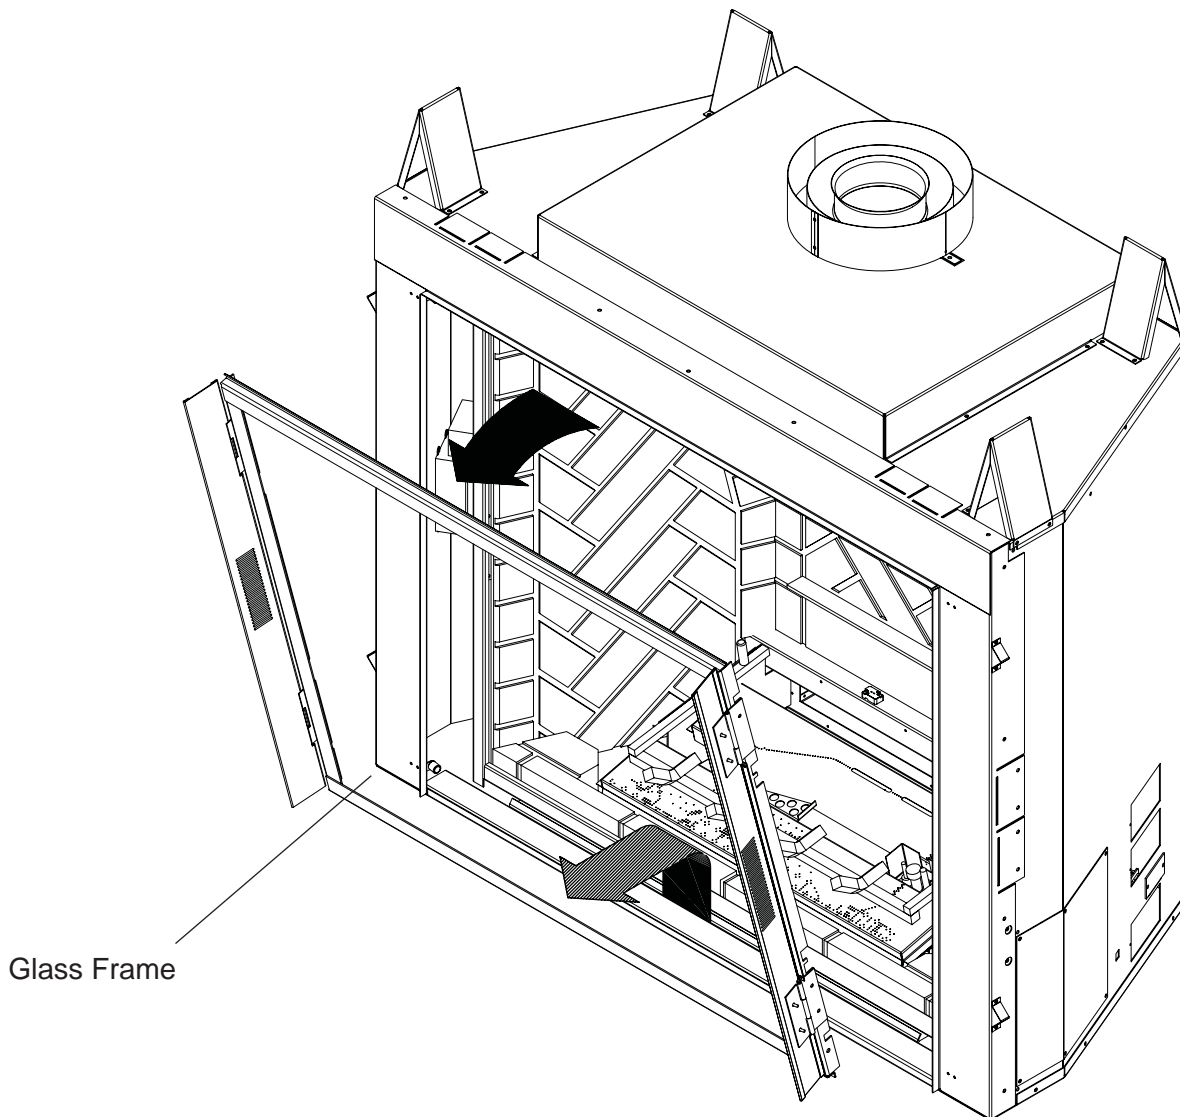

Figure 32 - Removing Glass Frame
4. Remove glass frame by releasing the three latches located at the top of the firebox. Tilt glass away from the unit, lift glass frame up and away from the unit. See Fig. 32.
4. Remove glass frame by releasing the three latches located at the top of the firebox. Tilt glass away from the unit, lift glass frame up and away from the unit. *Figure 32.*